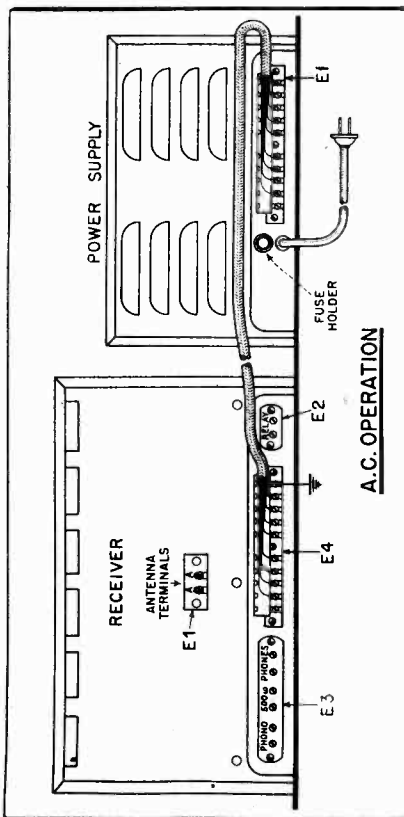

Fig. 3—Connections for power cable—A.C. operation.
Chassis Ground: It is not usually necessary to ground the Receiver chassis, but this can be done by connecting the ground lead to the left-hand PHONO or to the left-hand PHONES terminal (located on terminal strip E3, Fig. 3). These two terminals are grounded to the inside of the chassis.
Loudspeaker: The permanent magnet dynamic loudspeaker supplied with the Receiver has a transformer mounted on its housing. This transformer matches the voice coil of the loudspeaker to the 500-ohm output terminals (on terminal strip E3, Fig. 3) located at the rear of the chassis (marked 500 ohms). For loudspeaker operation, connect the two-wire lead attached to the terminals of the loudspeaker transformer to the 500-ohm terminals on the Receiver. Disconnecting the loudspeaker will not impair the operation of the Receiver.
(1) Remove the sheet-metal covers from terminal strip (E4, Fig. 3) on rear of Receiver and from terminal strip (E1, Fig. 3) on Power Supply. See that all ten screws on each strip are unscrewed at least three turns. Then attach one end of the connector cable to each terminal strip *exactly* as shown in Fig. 3 and tighten all screws securely. Make certain that each slotted spade lug on the cable strips makes contact with its respective screw terminal *only*, since a lug jammed between *two* screws could cause considerable trouble. Immediately replace both metal covers and do not remove them while the Power Supply is connected to the a-c power line.
(2) The spacing of spade lugs on cable terminal strips is exactly the same as the spacing of screws on Receiver and Power Supply. If the two fail to go together easily, DON'T USE FORCE. Be sure *all* screws are unscrewed far enough. If a spade lug has been bent or pushed out of place by rough handling, straighten it and try again. Spade lugs should slip under screws from the top.
(3) Fading signals can be improved by returning AVC-MANUAL switch to AVC.
d. *Receiver Silencing*: Receiver can be silenced by flipping the SEND-REC switch (S6, Fig. 2) to SEND. This operation opens the "B" supply to the R-F and 1st detector tubes (V1, V2 and V3). The Receiver then remains ready for instant service during transmission periods. Note also that instead of using the SEND-REC switch, a relay may be connected to the RELAY terminals (E2, Fig. 3) at rear of Receiver and silencing controlled by relay action, actuated, for example, by the associated transmitter. When using a relay for silencing, flip SEND-REC switch to SEND (open) and *leave* it there. While the transmitter is operating, the relay should remain *open*; when the transmitter is "off the air," the relay contacts should *close* to restore Receiver operation.
e. *Phono Operation*: Leads from a phonograph pickup may be connected to the PHONO terminals (on terminal strip E3, Fig. 3) at the rear of the Receiver. (Note that the left-hand terminal of this pair is grounded to chassis.) Use the SEND-REC switch (S6) as a "phono-radio" switch by flipping it to the SEND position, thus eliminating radio interference and making it unnecessary to hunt for a "dead spot" on the tuning dial.